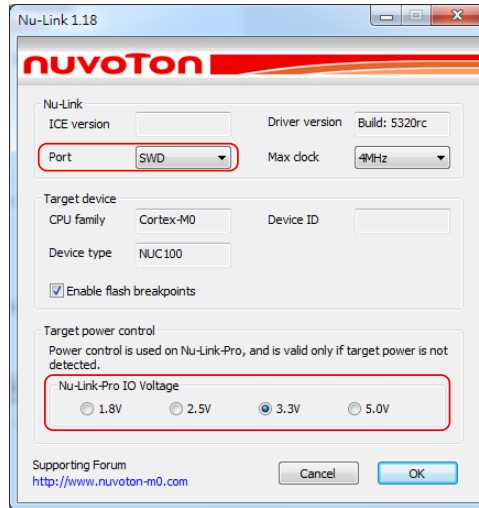

Figure 4-20 Specify the Port and Target I/O Voltage
Step 9: Invoke **Nu-Link** to open the *Nu-Link* form, select **SWD** as the Port, and specify the **Nu-Link-Pro I/O Voltage** in the **Target power control** section (3.3V in this case), as shown in Figure 4-20.